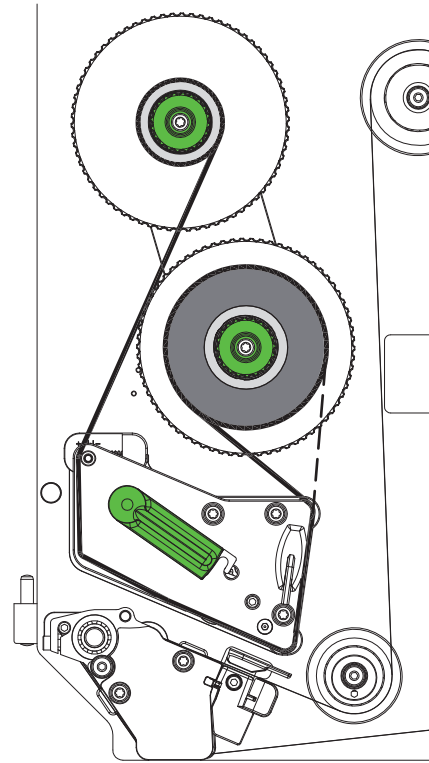

Figure 19 Transfer ribbon feed path
2. Turn lever (6) counterclockwise to open the printhead.
3. Slide transfer ribbon roll (3) onto the ribbon supply hub (4) until it stops and so that the color coating of the ribbon faces away from the printhead after loading.
4. Hold ribbon supply hub (4) firmly and turn knob (5) counterclockwise until the transfer ribbon roll is secured.
5. Slide suitable ribbon core (1) onto the transfer ribbon take-up hub (2) and secure it in the same way.
6. Guide transfer ribbon through the print unit as shown in Figure 19.
7. Secure starting end of transfer ribbon to the transfer ribbon core (1) with adhesive tape. Ensure counterclockwise rotation direction of the transfer ribbon take-up hub here.
8. Turn transfer ribbon take-up hub (2) counterclockwise to smooth out the feed path of the transfer ribbon.
9. Turn lever (6) clockwise to close the printhead.